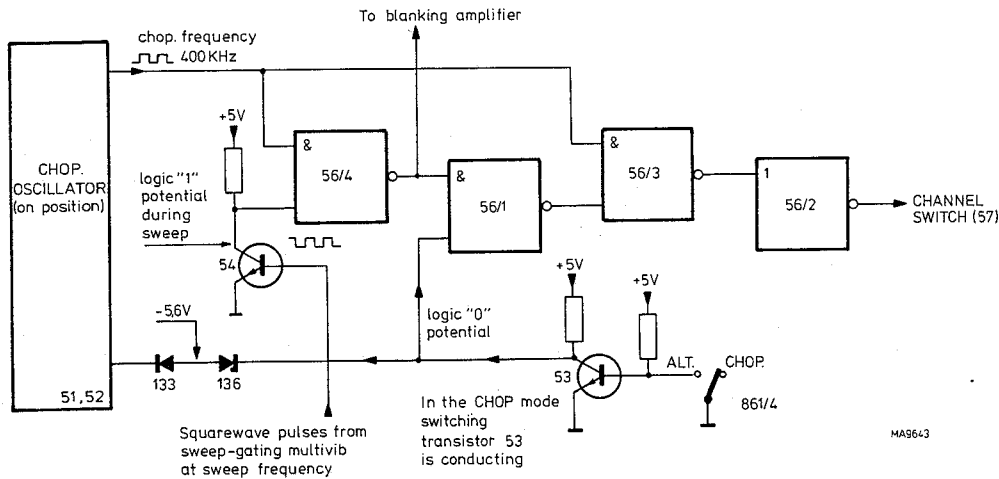

Fig. 3.6. Vertical channel switching – CHOP mode
– The CHOP pushbutton 861/4 disconnects the earth from the base of switching transistor 53, which then conducts. The collector voltage drops from 5 V to 0 V and, consequently, because of the zener diode voltage, the anode of diode 133 drops from -0.6 V to -5.6 V and switches on the CHOP oscillator 51, 52. The square wave voltage at the output of the CHOP oscillator (collector of transistor 52) operates the NAND gates to produce 400 kHz clock pulses for the channel switching flip-flop 57 (see Fig. 3.6).